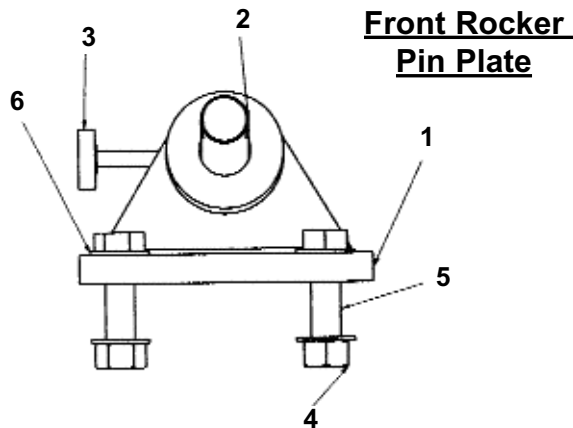

Figure 7
- 2) The rocker pin plates used at the rear of the center section have a non-symmetrical design. Figure 7 shows the design used at the right rear corner of the center section.